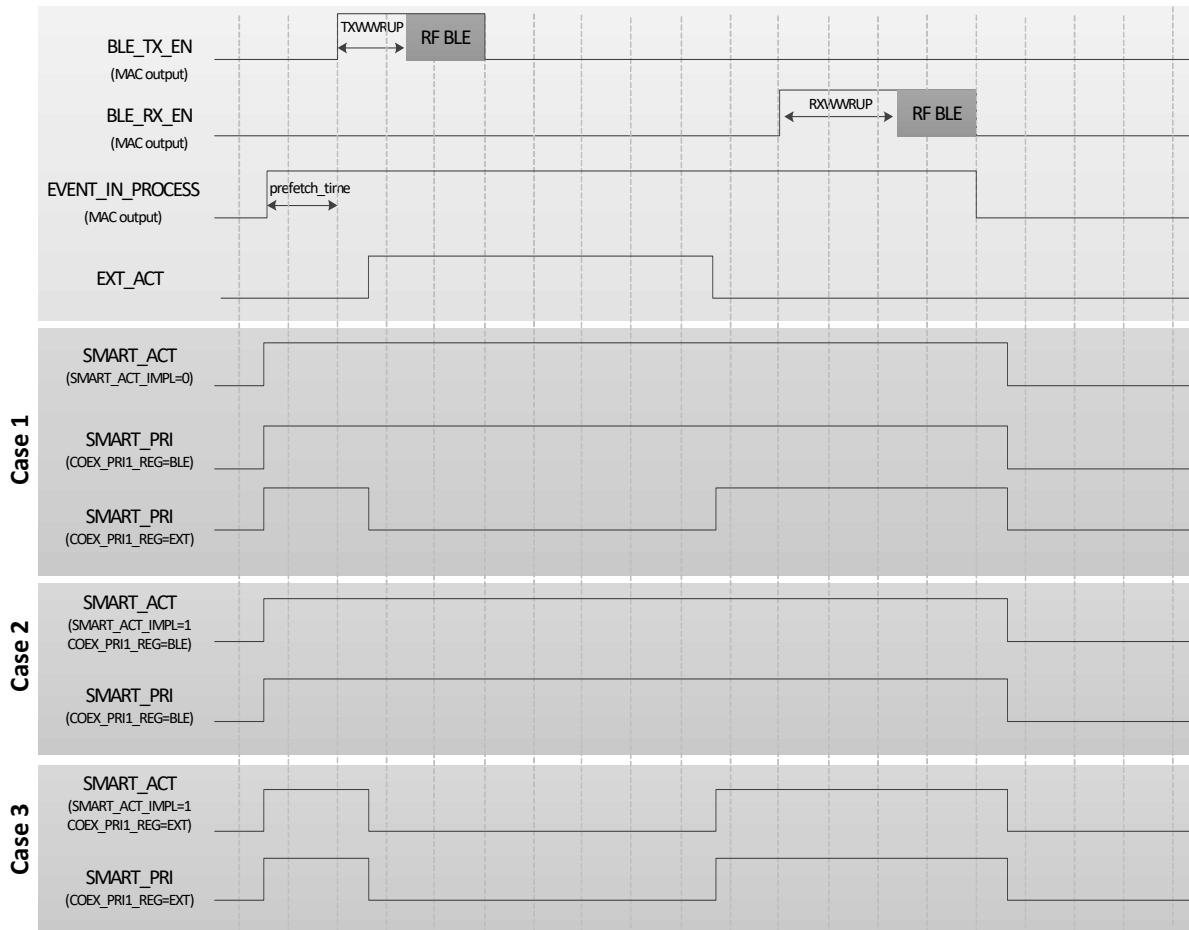

Figure 130: Coexistence signalling cases
2. SMART_ACT: this is an output from the DA14682 and when asserted it designates that the DA14682 is transmitting or receiving hence an external device should be aware of the radio activity. The exact timing of the assertion of this signal is depicted in Figure 130.
An overview of the aforementioned scenarios is presented in Figure 130.